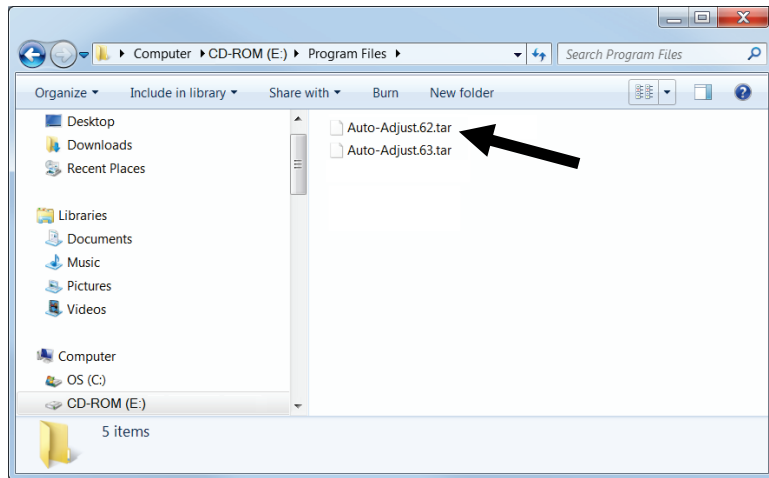

Figure 9. Select User Program File
5. Click **Browse** in the Download User Program File frame. The Select User Program File screen displays (see *Figure 9*).
6. Select the path and user program file to download from the CD-ROM. (Program files are typically located in the Program Files folder on the CD-ROM.) As *Figure 9* shows, the screen lists all valid user program files with the .TAR extension: